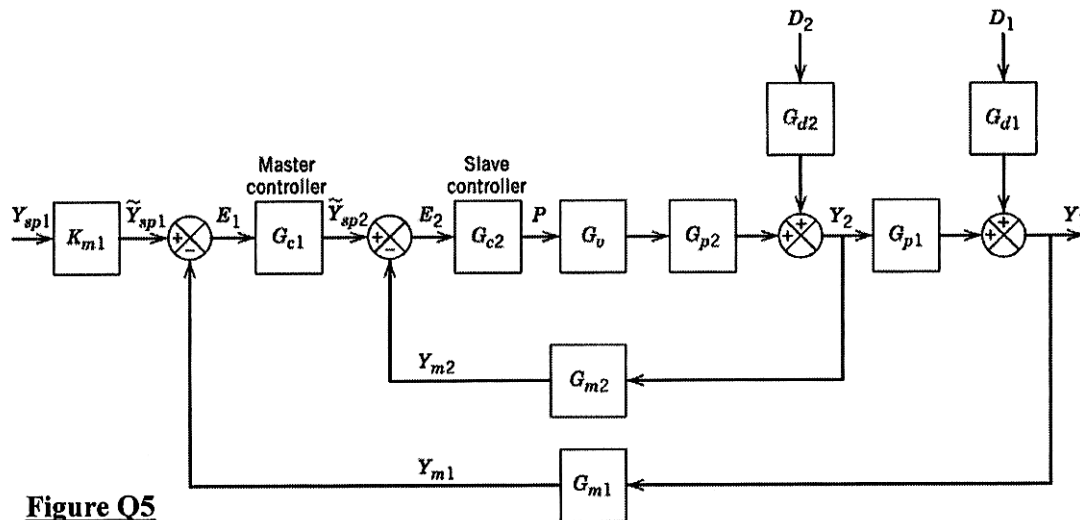

Figure Q5
- (b) Consider the block diagram of a Cascade Control scheme as shown in Figure Q5 with the following transfer functions: